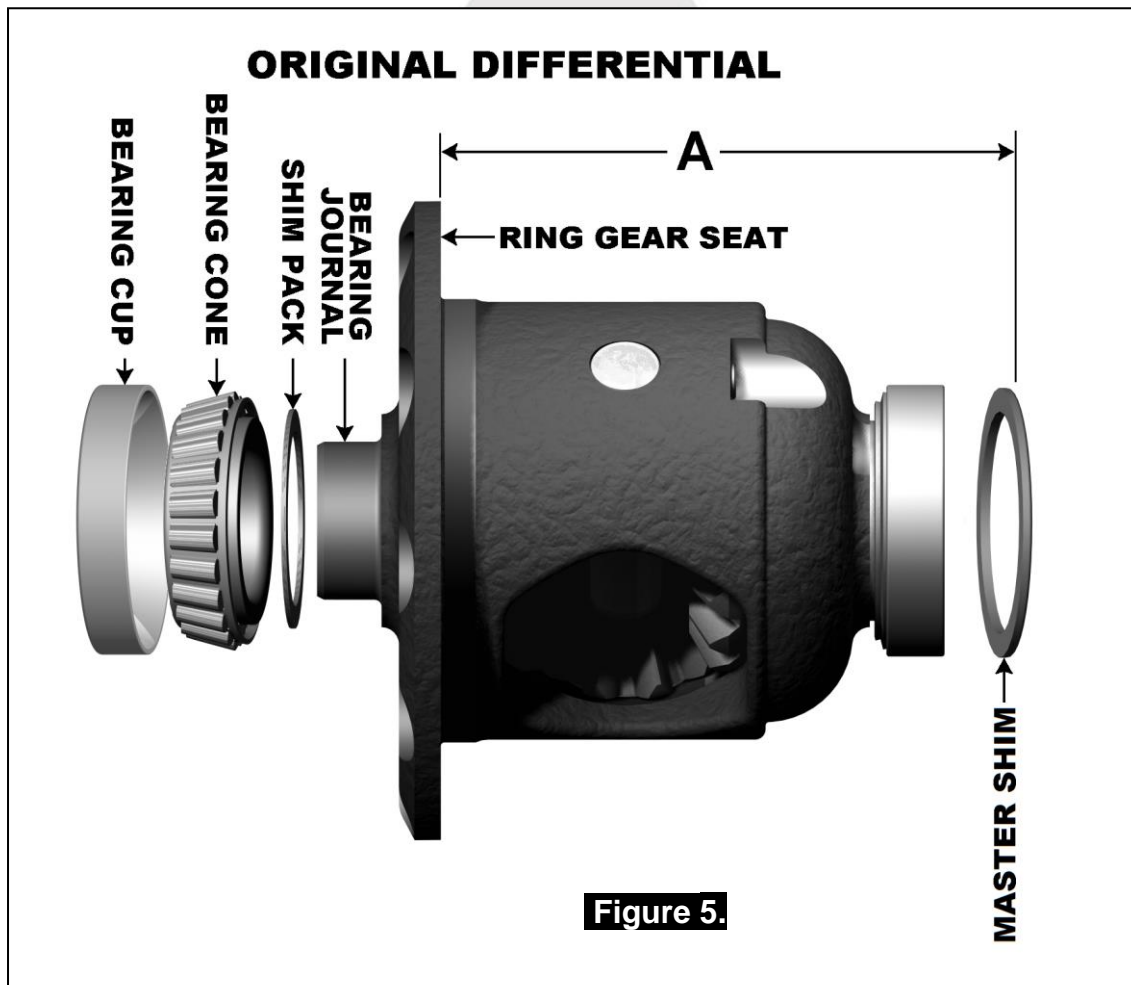

Figure 5.
- Using a caliper or similarly accurate measurement method (i.e., able to take accurate measurements within 0.04mm [0.0015"]), measure the distance from the shoulder of the outer face of the OE master shim to the ring gear mounting face (shown as 'A' in Figure 5.) and record this measurement as 'A'.